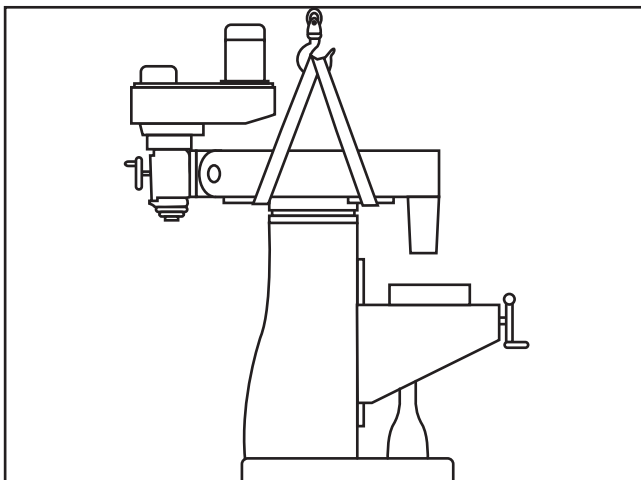

Figure 10. Using lifting slings to lift and move mill.
3. Rotate ram 180° clockwise so headstock faces backwards (see **Figure 10**).
5. Place lifting slings under ram and connect to a safety hook, as illustrated in **Figure 10**.